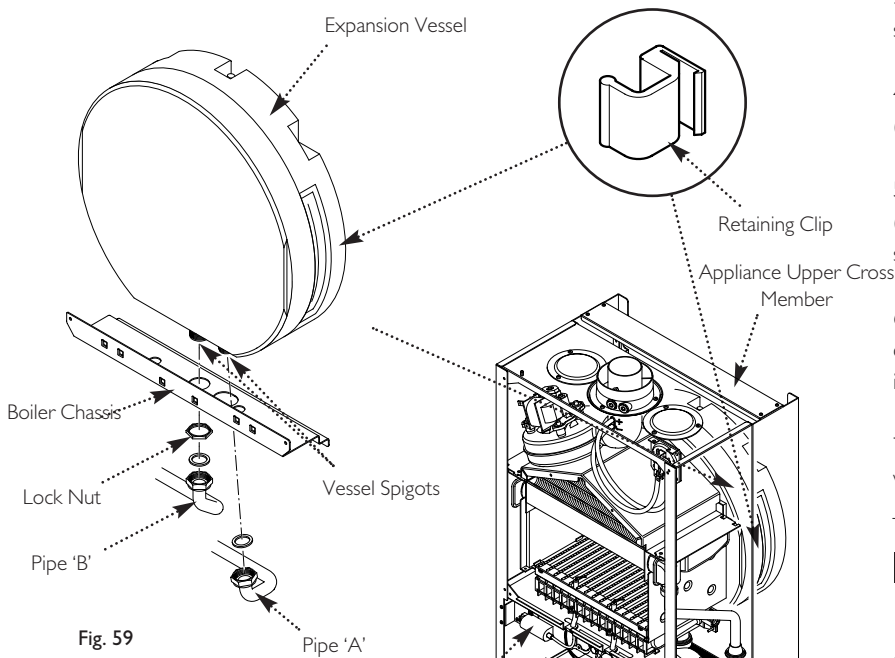

Fig. 59
### 12.16 Expansion Vessel & Pre-Heat Store (Fig. 59)
4. Undo the unions on pipe 'A' and remove the pipe (Fig. 59).
5. Undo the union on pipe 'B' connected to the vessel (Fig. 59) and remove the locknut securing the vessel spigot to the boiler chassis.